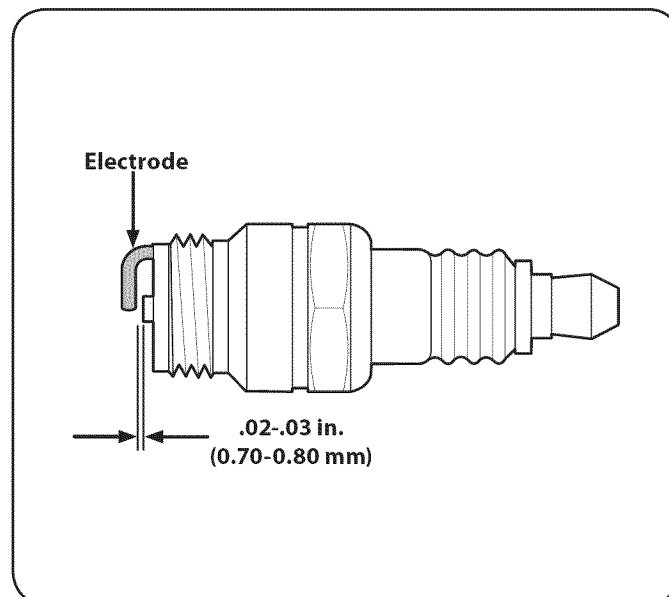

Figure 13
3. Measure the plug gap with a feeler gauge. Correct as necessary by bending the side electrode, Figure 13. The gap should be set to .02-.03 inches (0.70-0.80 mm).